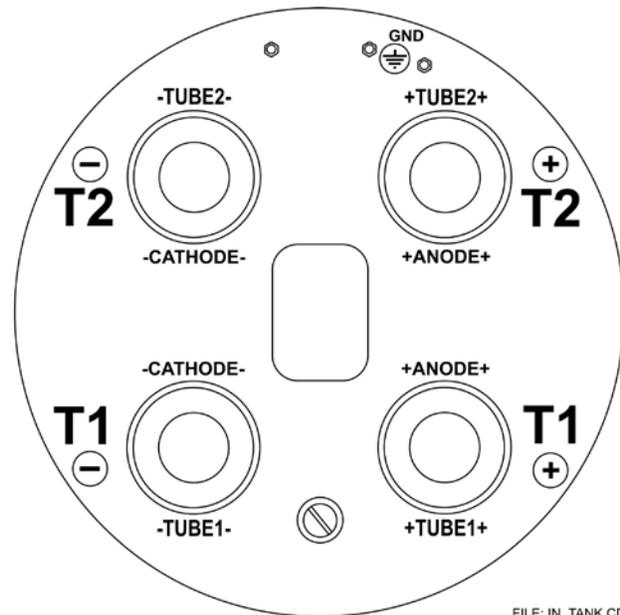

Figure 2-11: HV connectors (2 tube tanks)
- Refer to figure 2-11 (power supply auxiliary transformer). Locate this transformer under the power input board; refer to chapter 1E for details.